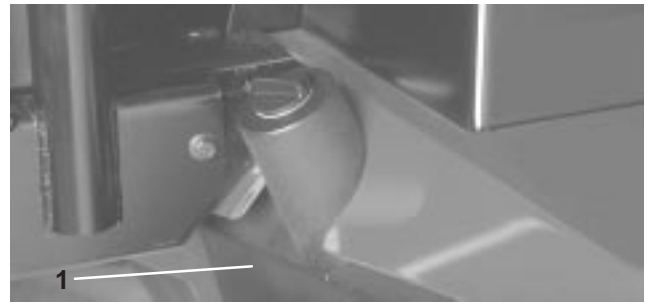

Figure 56
2. Remove drain plug from bottom of reservoir (Fig. 56) and let hydraulic fluid flow into drain pan. Install and tighten plug when hydraulic fluid stops draining.